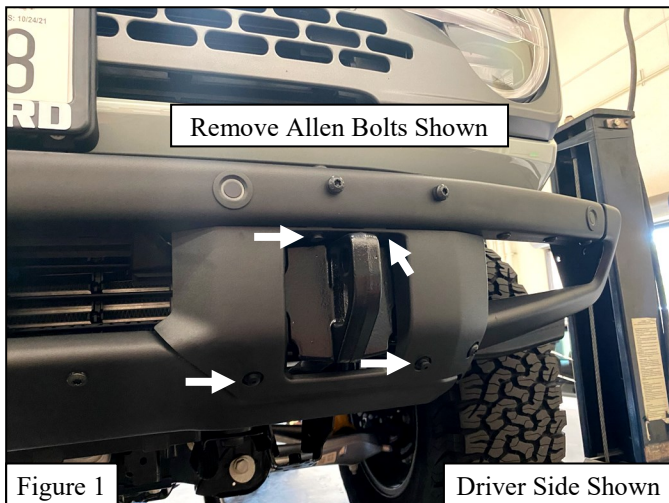

Figure 1
3. Remove the OEM front tow hook covers by removing the push pins and firmly pulling on the plastic covers. See **Figure 1 & 2.**